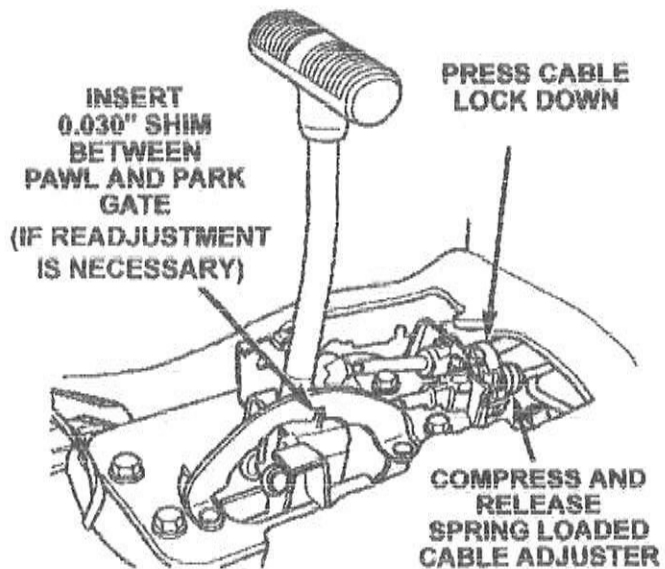

Figure 17
31. Compress and release the spring loaded cable adjuster (Figure 17).
32. Press the interlock cable lock clamp down until it snaps into place (Figure 17).
- C. Compress and release the spring loaded cable adjuster (Figure 17).
NOTE: If a second cable adjustment is required, insert a .030 pin or shim between the pawl and the park gate (Figure 17) and continue the adjustment procedure. Remove the pin or shim after the cable has been locked.